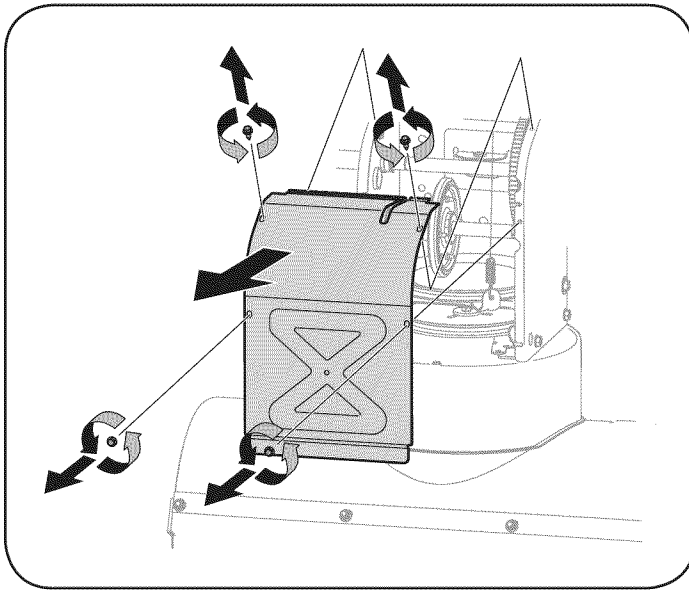

Figure 32
5. Remove the frame cover from the underside of the snow thrower by removing four self-tapping screws which secure it. See Figure 32.
- Remove the frame cover from the underside of the snow thrower by removing four self-tapping screws which secure it. Refer to Figure 32.